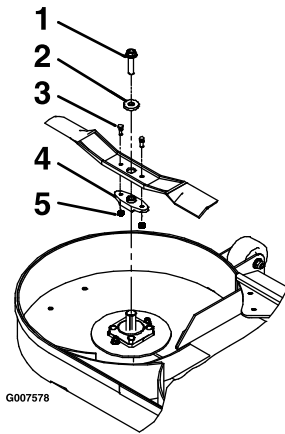

Figure 65
3. Remove the blade, washer, and blade bolt that secures the blade and blade driver (Figure 65).
4. Remove the blade driver from the existing blade (Figure 65).
1. Install the blade driver to the new blades with the shear bolts and locknuts (Figure 65).
3. Install the blade, washer, and blade bolt to the spindle shaft (Figure 65).